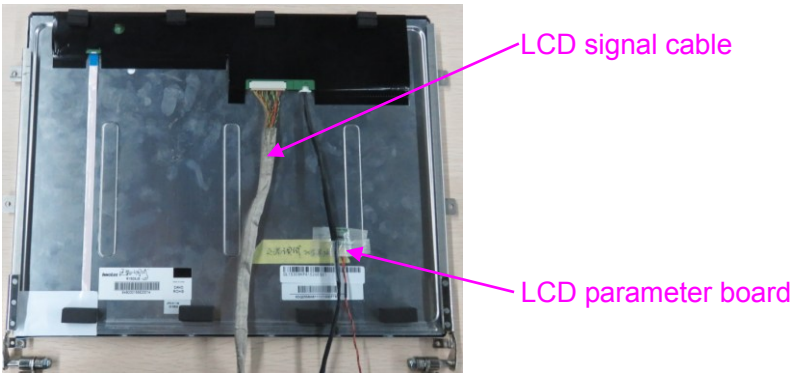

Fig 4-13 Backside of LCD Screen
6. Take off the LCD screen, the back side view is as shown in figure 4-13.